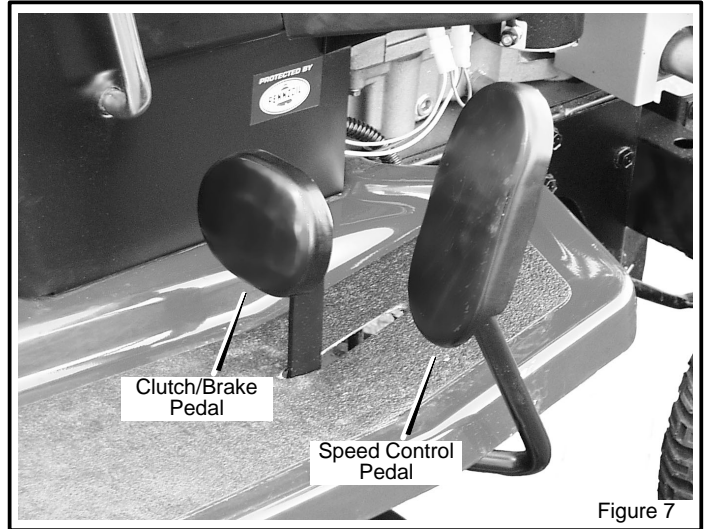

Figure 7
The drive system uses a variator pulley connected to a two speed transaxle. The Variator Drive is very easy to operate. This type of drive system has a two speed shift lever and a clutch/brake pedal located beside the speed control pedal (see Figure 7).
5. Slowly push the **speed control pedal** forward to the desired speed (see Figure 7).